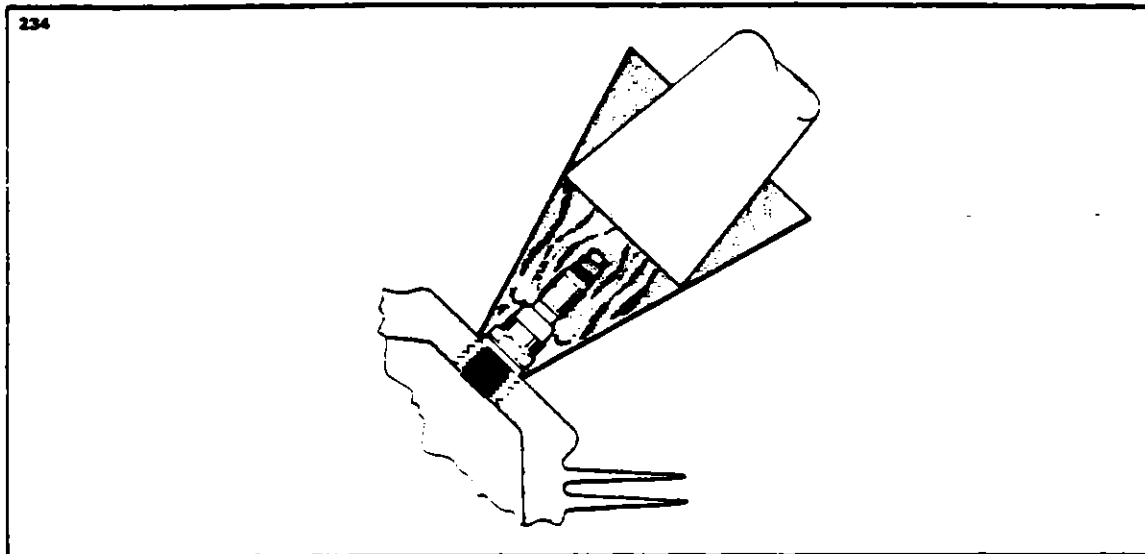

FIGURE 7B-15. REMOVAL OF SEIZED SPARK PLUG
- d. Removal of seized spark plugs in the cylinder may be accomplished by application of liquid carbon dioxide by a Conical metal funnel adapter with a hole at the apex just large enough to accommodate the funnel of a CO2 bottle. (Refer to Figure 7B-15) When a seized spark plug cannot be removed by normal means, the funnel adapter is placed over and around the spark plug. Place the funnel of the CO2 bottle inside the funnel adapter and release the carbon dioxide to chill and contract the spark plug. Break the spark plug loose with a wrench. A warm cylinder head at the time the carbon dioxide is applied will aid in the removal of an excessively seized plug.